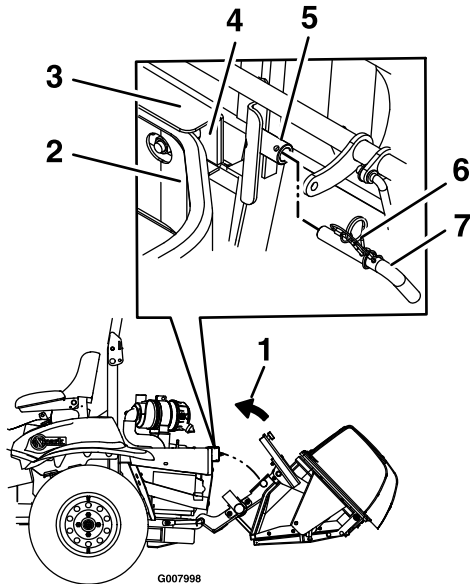

Figure 12
6. Lift the hopper assembly and pivot it upward toward the back of the unit (see Figure 12).
10. Install the mount pin into the frame mount barrel. Make sure that it extends into the opening between the rear bumper and the mount bracket (see Figure 12).